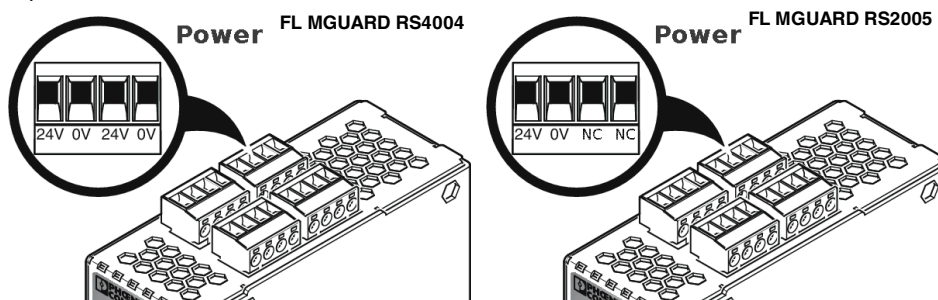

Figure 3-4 Connecting the supply voltage
- Insert the screw terminal blocks into the intended sockets on the top of the device (see Figure 3-4).